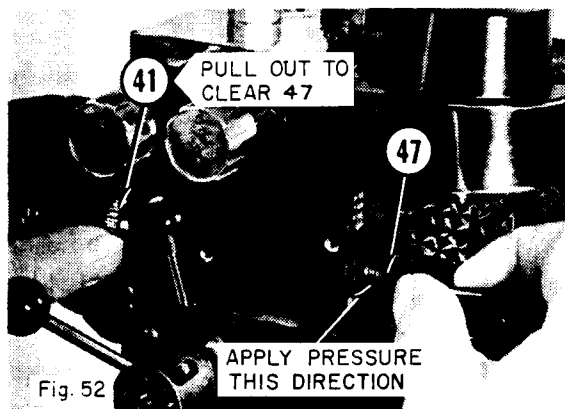
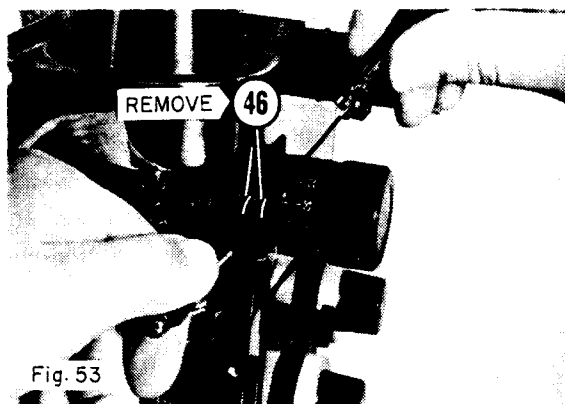

Fig. 52
Fig. 53
- c. Then, holding the flexible shaft assembly (47) with one hand, apply pressure on it so as to relieve the spring tension bearing on the feed rate shaft (45) as shown in Fig. 52.
- d. With the other hand, pull on the spur gear (41) which is attached to the feed rate shaft (45) together with the bearing tube spacer (42). Pull it out far enough to remove one end of the flexible shaft assembly.
To remove the flexible shaft assembly (47) from the other side of the feed rate shaft, simply remove setscrews (46) and pull the flexible shaft assembly out, as shown in Fig. 53. To replace the flexible shaft assembly, reverse the procedure and reinstall all setscrews.